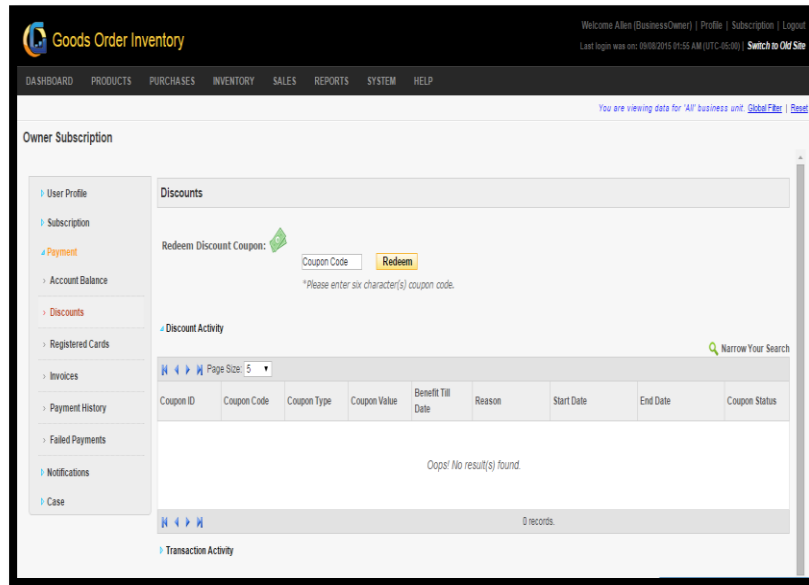

FIGURE 7.22.2
4. A sub menu will slide down; click on the “Discount” tab, detail related to Discount will be displayed by the system, if user has availed any discount. Snapshot of the page is shown in the **(Figure 7.22.2)**